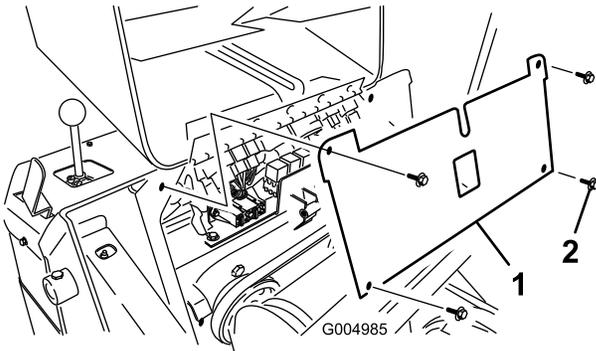

Figure 35
4. Remove the 4 screws securing the fuse panel and then pull the panel out and up to remove it (Figure 35).